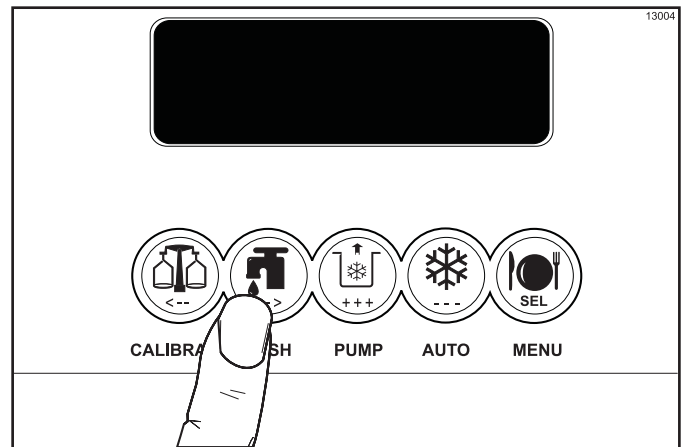

Figure 6-69
2. With a pail beneath the door spout, press the WASH key. (See Figure 6-69.)